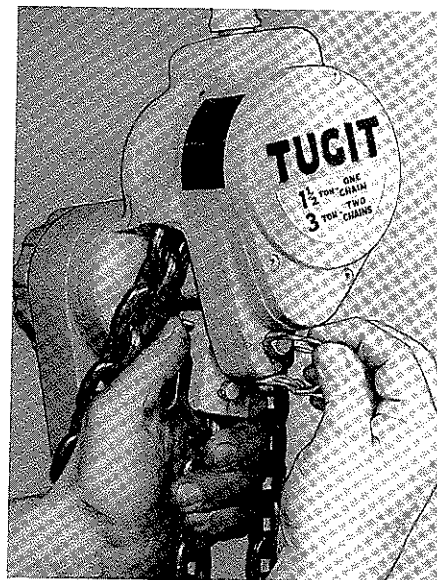

Figure 8-4.
- Depress and hold Release Pin and withdraw Frame Anchor Pin as shown in Figure 8-4.